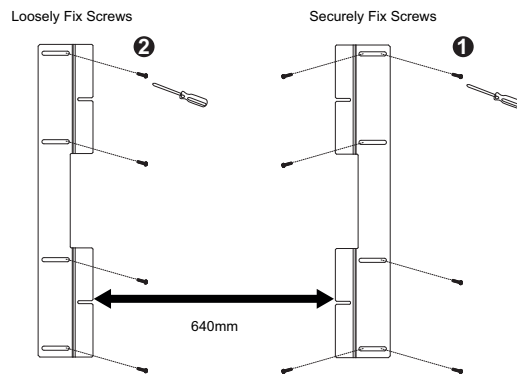

Figure 1
2.4.2 Proceed to align and secure the first ceiling bracket taking into account the available ceiling space to mount the unit. Locate second bracket position (See Figure 1) and loosely fit four screws within each slot at the inner nearside point. This will allow the bracket to be slotted inwards to secure the unit.